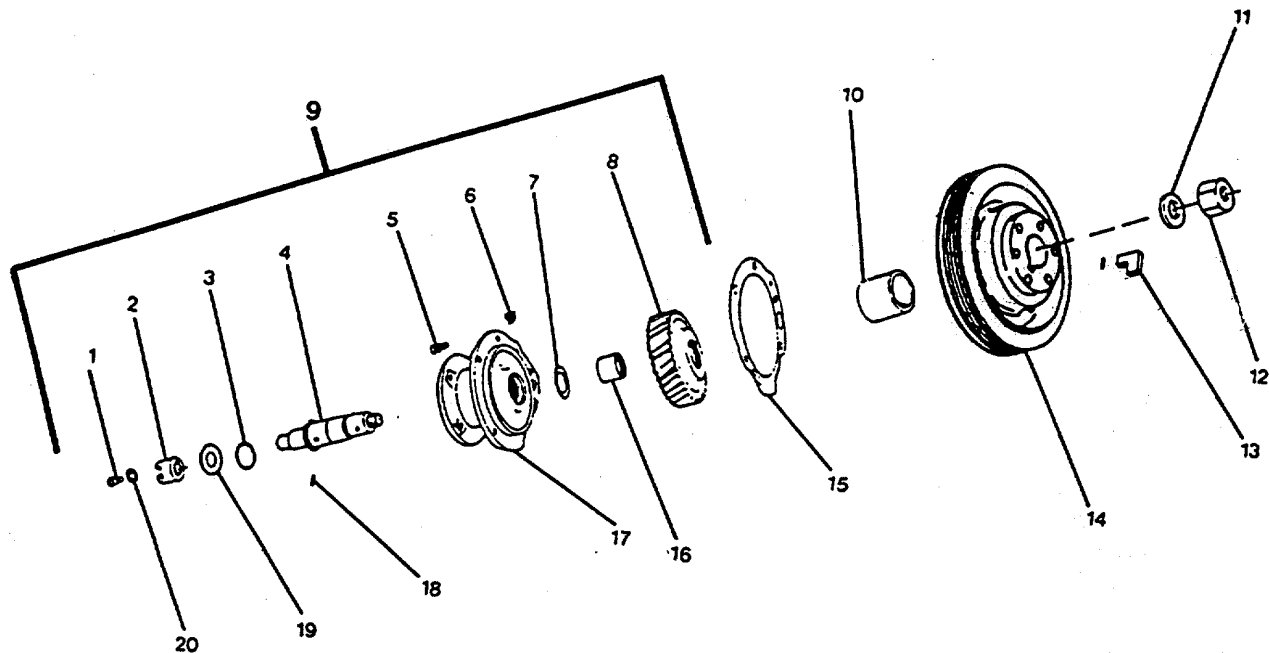

FIGURE 3-30. Alignment Pointer.
- a. Rotate the crankshaft until the "A" mark on the accessory drive is aligned with the pointer on the gear cover (Figure 3-30).